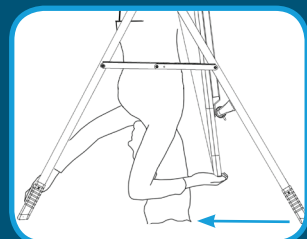

Figure 12
- Pull both hands together (Figure 12). This will rotate the Table Bed out of the “locked” position. Slowly move your arms and elbows to your sides to complete the rotation.